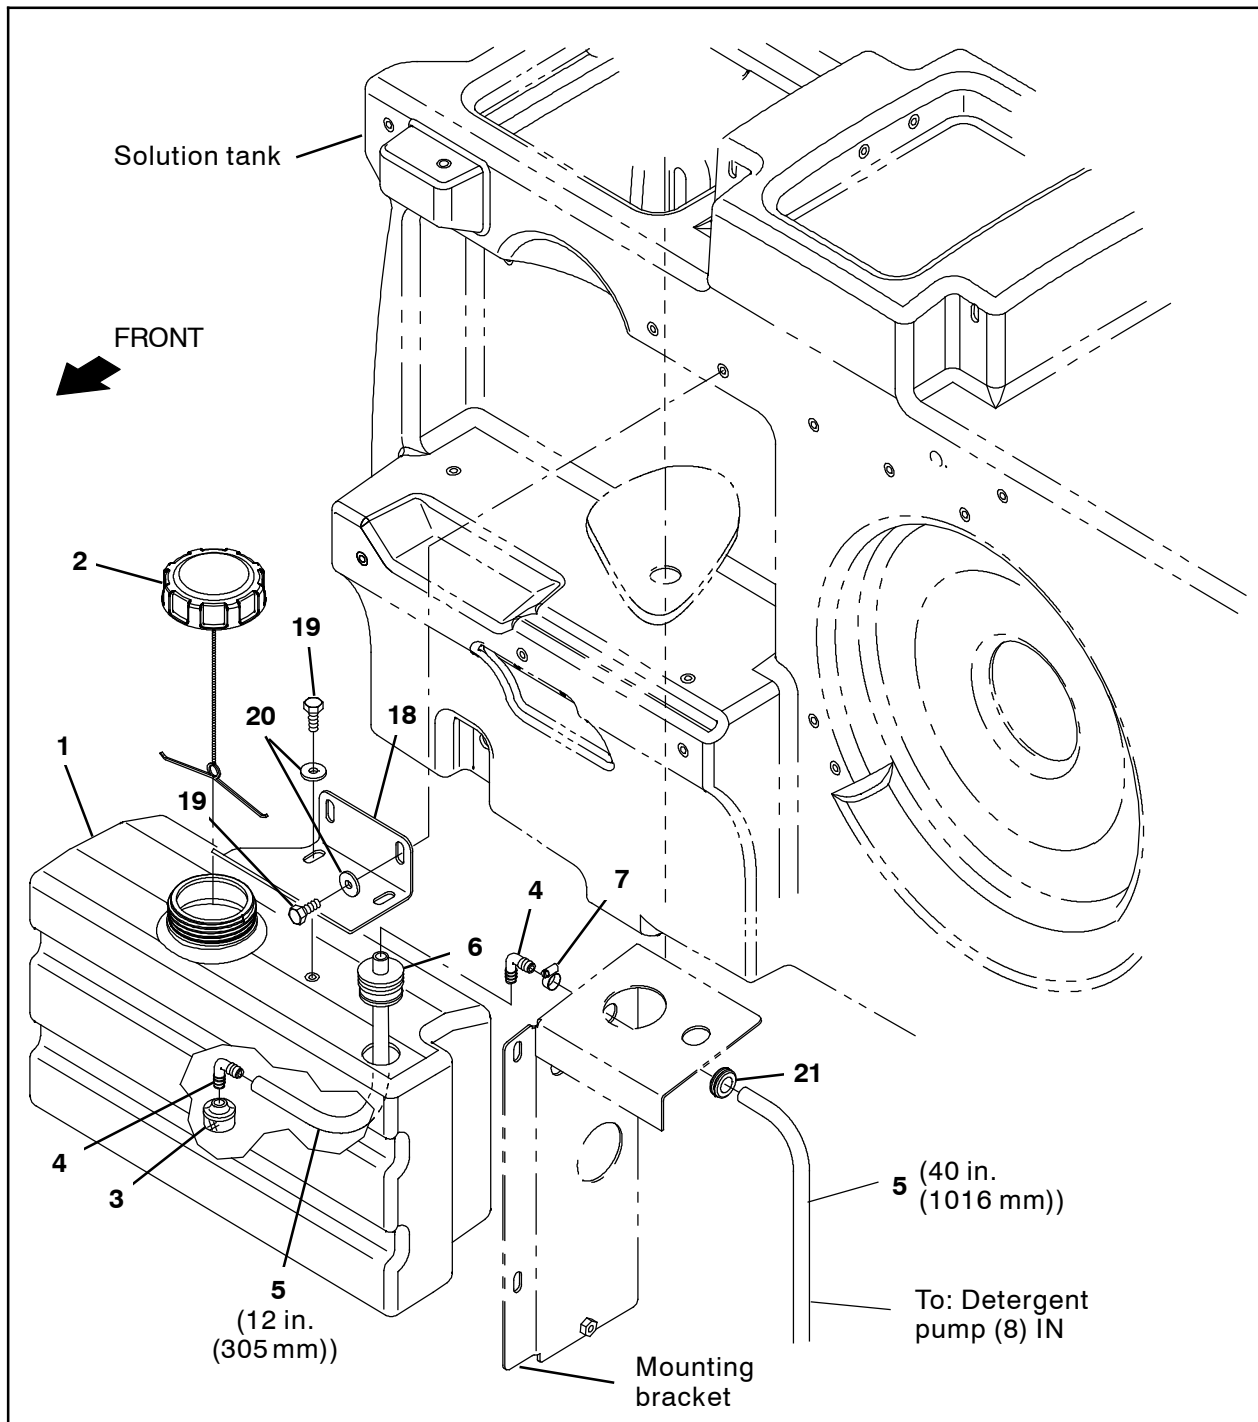

FIG. 2 - M20/T20 ONLY
1. Cut a 12 in. (305 mm) length from the 0.38 in. dia. PVC hose (5). (Fig. 2)
2. Assemble the 12 in. (305 mm) 0.38 in. dia. PVC hose (5) cut in the previous step and parts/components into the detergent tank (1). (Fig. 2)
3. Install the detergent tank (1)/detergent tank bracket (18) onto the solution tank. (Fig. 2)
4. Insert the rubber grommet (21) into the mounting bracket. (Fig. 2)
5. Cut a 40 in. (1016 mm) length from the 0.38 in. dia. PVC hose (5). (Fig. 2)
6. Insert the elbow fitting (4) into the 12 in. (305 mm) 0.38 in. dia. PVC hose (5) and connect the 40 in. (1016 mm) 0.38 in. dia. PVC hose (5) to the elbow fitting. (Fig. 2)
7. Route the 40 in. (1016 mm) 0.38 in. dia. PVC hose (5) through the rubber grommet (21) in the mounting bracket and down to the scrub head. (Fig. 2)
14. Cut another 40 in. (1016 mm) length from the 0.38 in. dia. PVC hose (5). (Fig. 2)